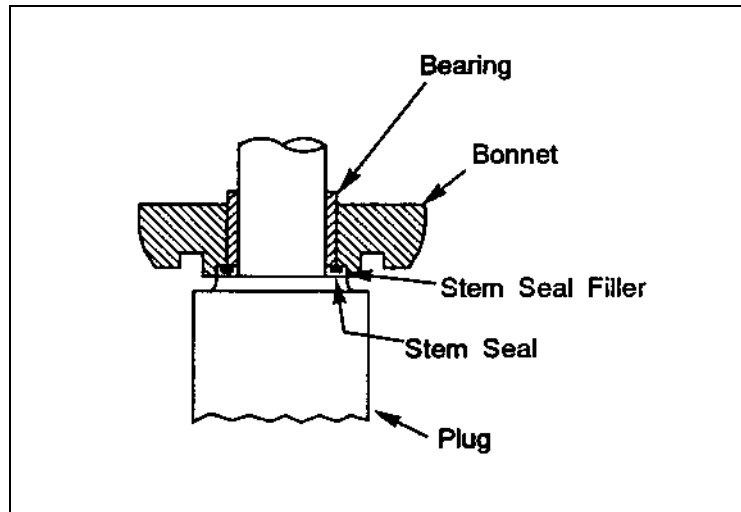

Figure 4 — Bearing and Stem Seal Arrangement
4. Push a new seal into the bonnet. See Figure 4 for correct installation.